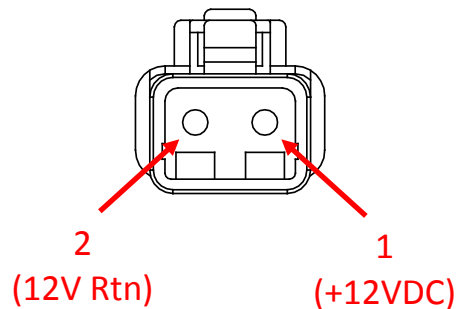

FIGURE 7 – DC POWER INPUT CONNECTOR
- ii. Before connecting CABLE 1 to gyro, check for proper voltage and polarity with a DC multimeter using Figure 7 below.